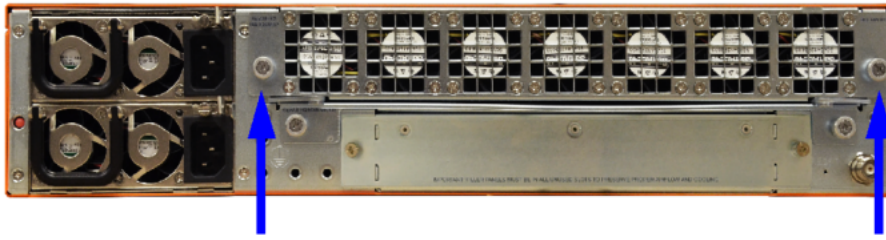

Figure 6 Fan Tray Screw Location on GigaVUE-HC2 Rear
1. Locate the two screws on either side of the fan tray as shown in Figure 6 Fan Tray Screw Location on GigaVUE-HC2 Rear.